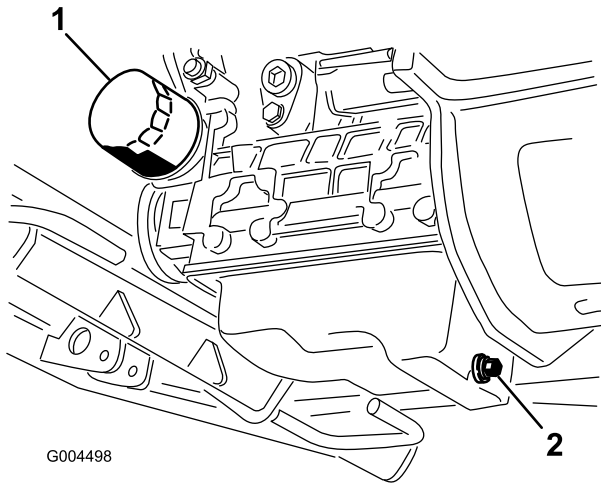

Figure 60
3. Set a drain pan under the oil pan and in line with the drain plug (Figure 60).
6. Remove and replace the oil filter (Figure 60).